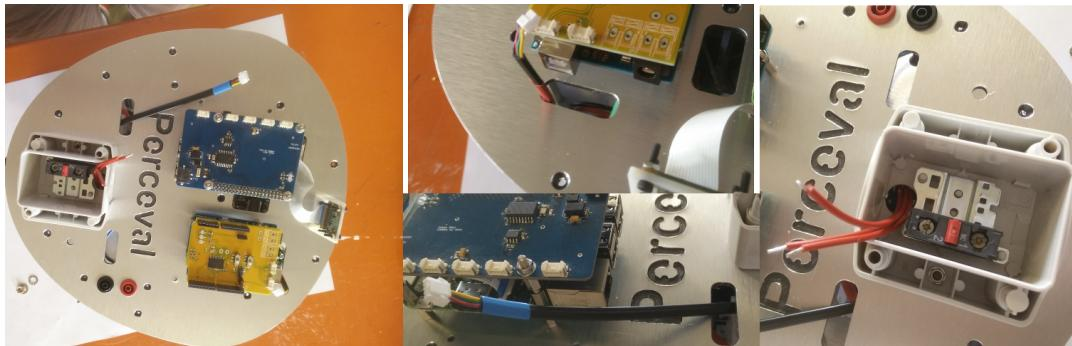

Figure 3.3: Mind the wires!
**Warning: While placing the second plate on the first one, be carefull with the wires! Put them as depicted in Figure 3.3.**